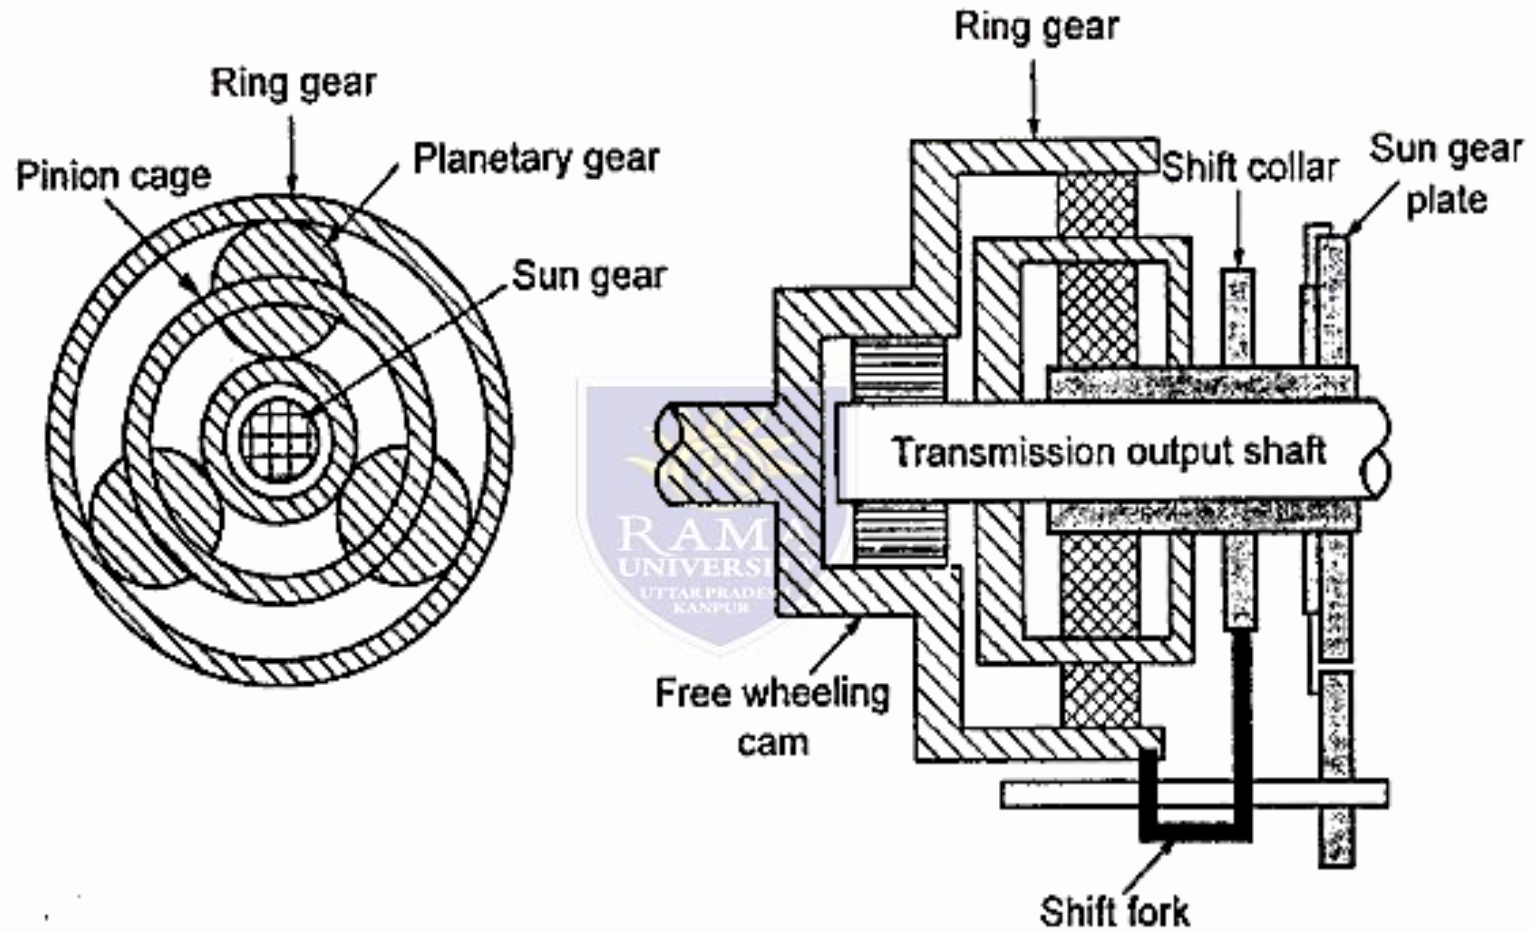

Figure 3.33 Planetary gear set arrangement of overdrive mechanism
- A design of overdrive used in late-model American passenger cars is shown in Figure 3.33.